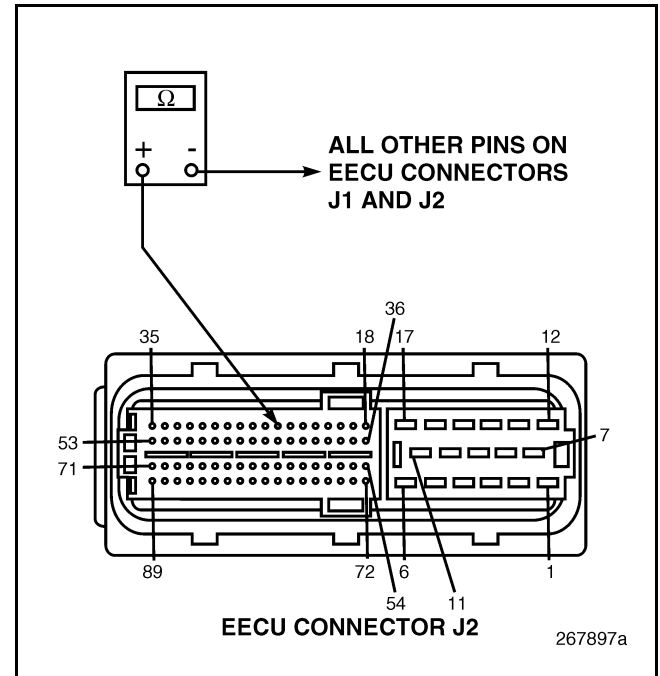

Figure 34
4. Check for continuity between EECU harness connector J2 pin 25 (reference voltage line) and all other pins in EECU harness connectors J1 and J2 (see Figure 34).